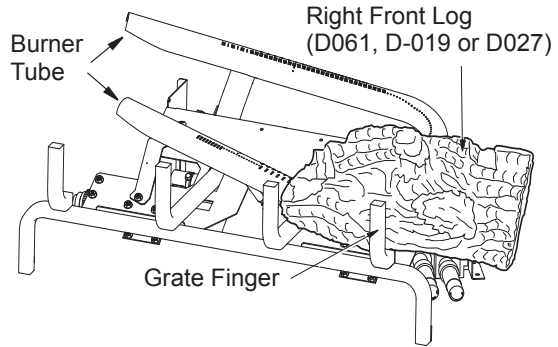

Figure 22 - Installing Right Front Log
1. Find the right front log (LMF24GTA/B or LMF24MOA/B models: D-061, LMF30GTA/B or LMF30MOA/B models: D-019, LMF36GTA/B or LMF36MOA/B models: D-027). See **Figures 22, 22A, 22B, and 22C** for reference. The log has a rectangular shape on the bottom that fits against the lip on the black metal base, the square grate, and the round tube burner. Slide the log in place as shown in Figures.